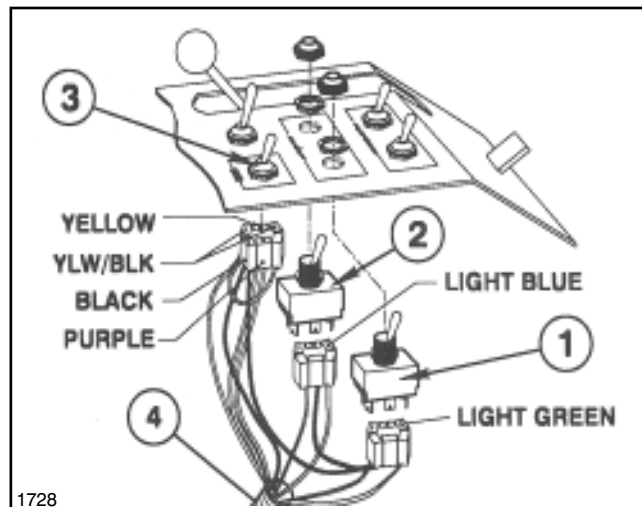

FIG. 4
10. Install two (2) Boom Switches (included in Boom Lift Kit) and Sonic Boom™ Mode Switch. Connect Wiring Harness as shown in FIG. 4.